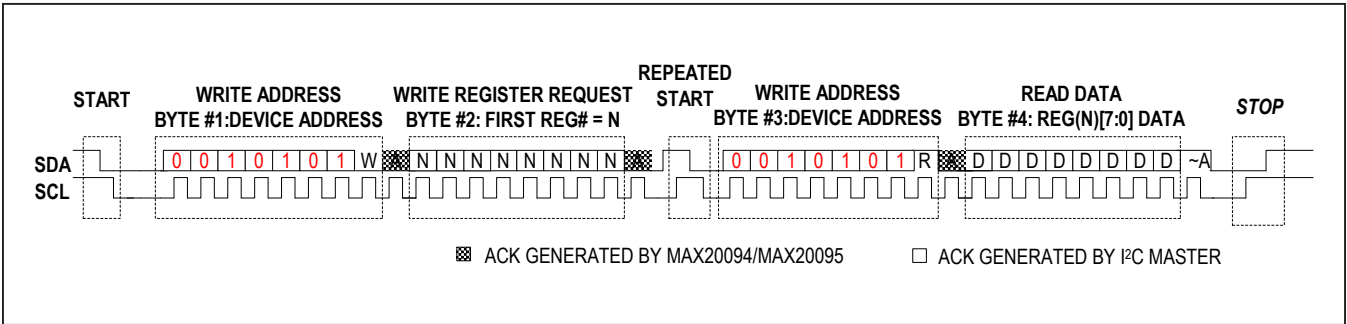

Figure 7. I2C Read Sequence
The ICs support standard combined-format I2C read-mode operations. Each receive sequence is again framed by a START (S) or Repeated START (Sr) condition and a STOP (P). Each byte is 8 bits long and is always followed by an ACK clock pulse, as shown in Figure 7. The first byte contains the address of the device, with $R/\overline{W} = 1$ to indicate a read and an acknowledge (ACK) clock. The second byte contains the register that is to be read back. There is now a Repeated START (Sr) condition, followed by the device address, with $R/\overline{W} = 1$ to indicate a read and an acknowledge (ACK) clock. The master still has control of the SCL line, but the device takes over the SDA line. The fourth byte in the frame contains the register data readback followed by a STOP (P) condition.